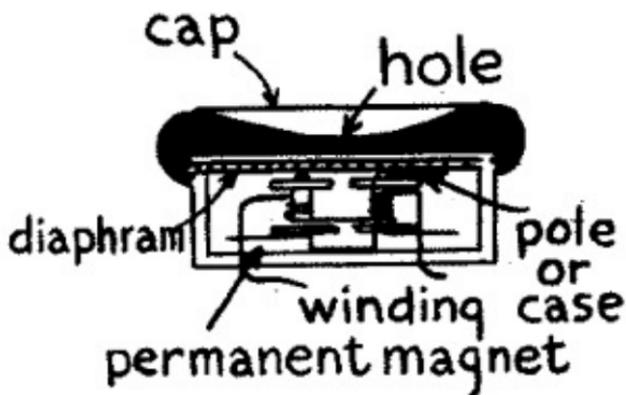

FIG. 63.—Wireless Headphone.
*How a Wireless Headphone Is Made.*--For wireless work a receiver of the watch-case type is used and nearly always two such receivers are connected with a headband. It consists of a permanent bar magnet bent so that it will fit into the shell of the receiver as shown at *A* in *Fig. 63*.